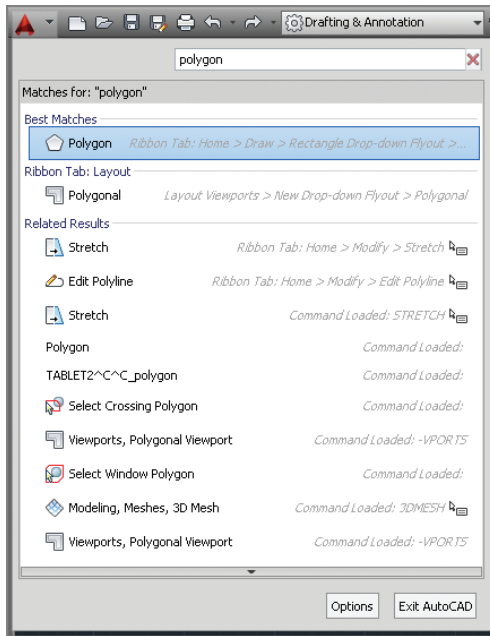

FIGURE 1.2 Searching for commands in the Application menu
1. Click the Application menu. Type polygon, and observe that the text appears in the search box at the top of the Application menu. The search results (see Figure 1.2) list many related AutoCAD commands. Search is useful when you're not sure how to access a command in the interface or what its exact name is.